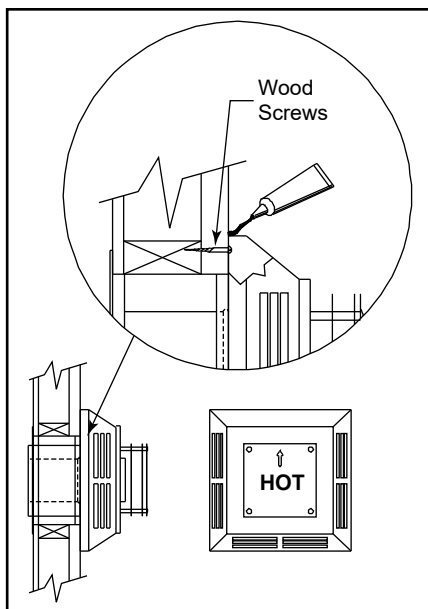

Figure 3.28
Step 4 - Position the horizontal termination cap in the center of the square framed hole, and attach to the exterior wall with the four (4) wood screws provided. Before attaching the vent termination cap to the exterior wall, run a bead of non-hardening silicone sealant around the outside edges to make a seal between the cap and the wall. The arrow on the vent cap should be pointing up. Ensure proper clearances to combustible materials are maintained, Figure 3.28.